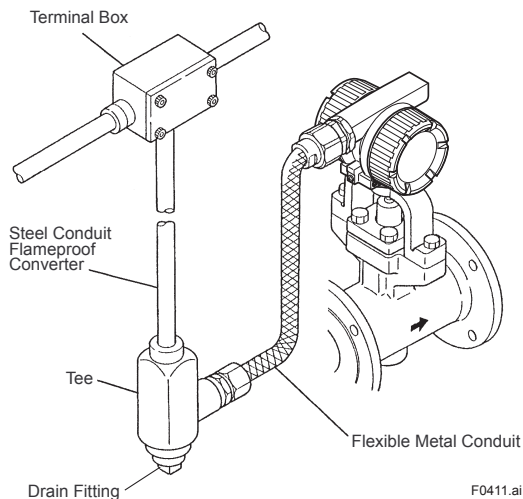
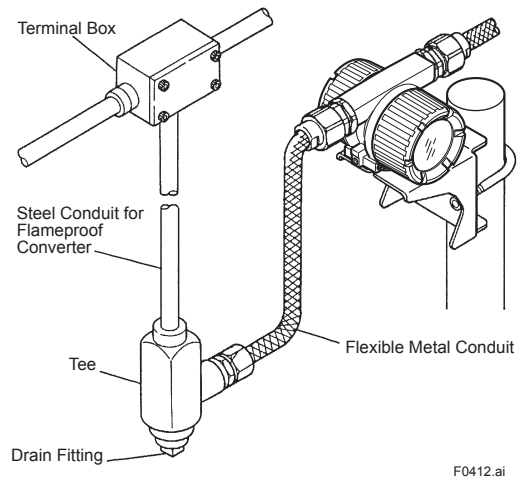

Figure 4.10 Example of Wiring (Integral Type and Remote Type Detector (DY-N))
Figure 4.11 Example of Wiring (DYA Remote Type Converter)
- (1) Lay wiring as far as possible from electrical noise sources such as large capacity transformers, motors, and power supplies.
- (2) Remove the terminal cover and dustproof plug of an electrical connection before wiring. When you open the cover of explosion protected type (*), turn the Locking Screw to the right, and unlock. When you close a cover after wiring, be sure to turn the Locking Screw to the left and lock.
- (3) It recommends using a flexible metal conduit and a duct for waterproofing or external protection of an electric wire. Read Figure 4.10 and Figure 4.11.
- (4) The flameproof packing adapter (option code: /G11 or /G12) should be used for the external wiring of TIIS Flameproof. Read "INSTALLATION AND OPERATING PRECAUTIONS FOR TIIS FLAMEPROOF EQUIPMENT."